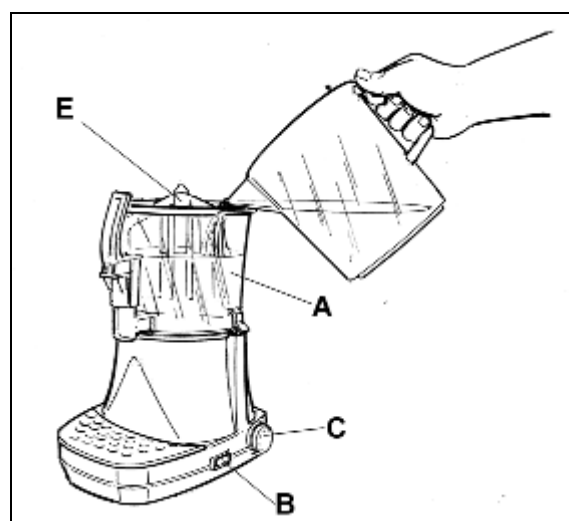

Fig. 11
- Lift up the lid and pour the product into container (A) and turn the machine on at switch (B). Put the thermostat (C) at the maximum temperature (see fig.11). Wait for the product to reach the right temperature to be dispensed.